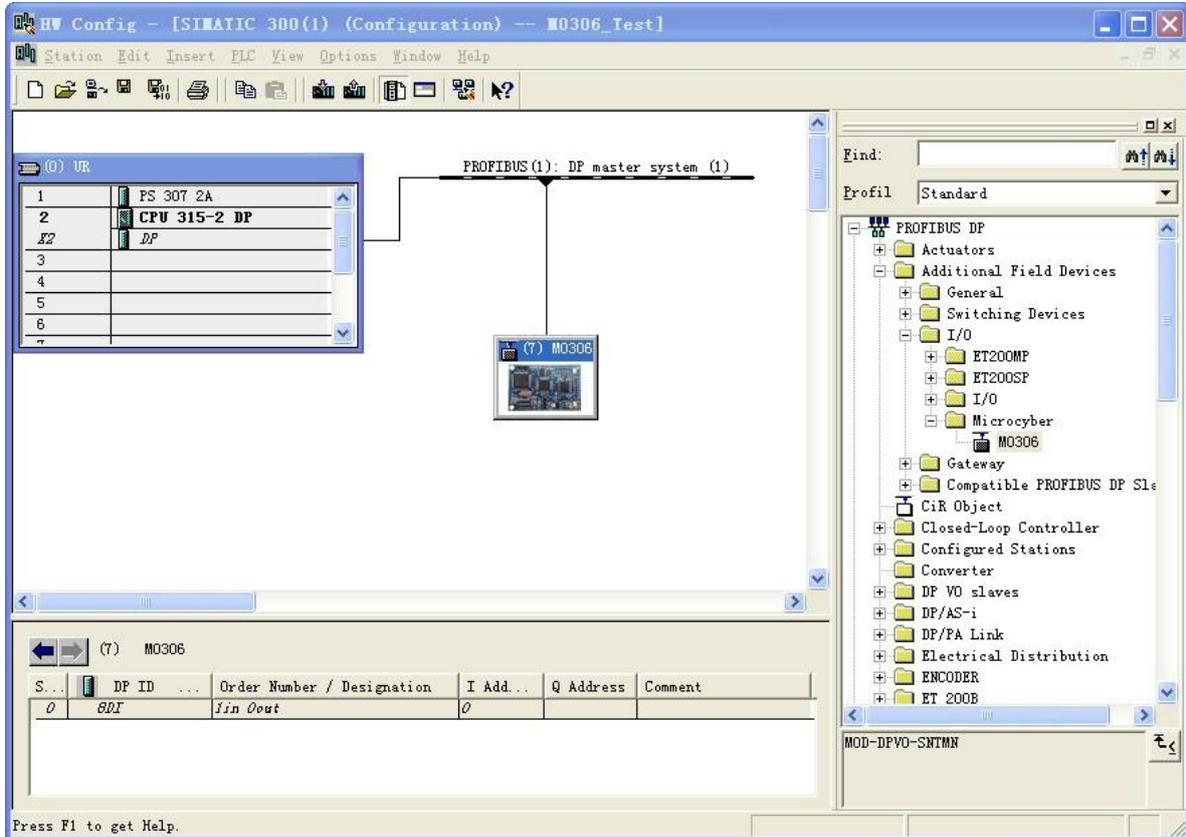

Figure 4.5 Device configuration
4) Click M0306 module icon (device icon) in the configuration image, the device's I/O module configuration information shall be shown in the left bottom side of the window, which is analyzed from GSD file's I/O configuration identifier, as shown in Figure 4.5.